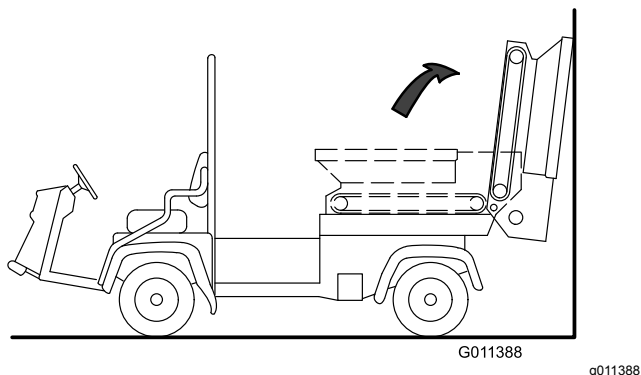

Figure 33
5. Pivot the hopper rearward and lean it against a wall, ladder, etc. Do not allow the hopper to rest against the rear of machine, as damage may result to the brush or the hydraulic couplers (Figure 33).
Important: Ensure that the hopper is pivoted beyond center and/or secured to a wall or post to prevent it from accidentally falling on the work area (Figure 33).